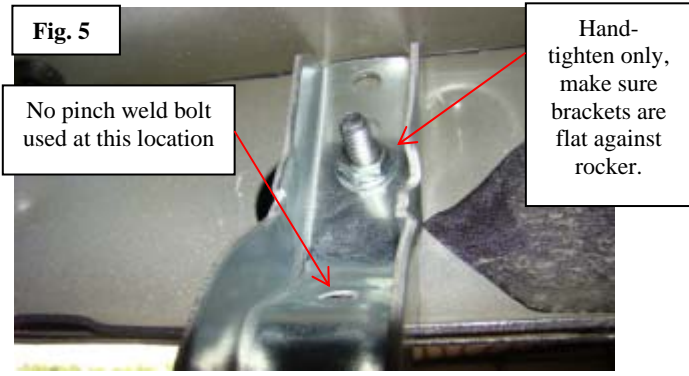

Fig. 4
Step 5: For the middle front and middle rear, (2nd & 4th), mounting location you will need to loosely attach the bolt plate, (P/N S-1837) to the bracket using a washer and flange nut and install it into the rocker panel. Finger-tighten only, do not tighten all the way. No pinch weld bolt is required in these locations, only the rocker panel mount. **See figures 4 & 5.**